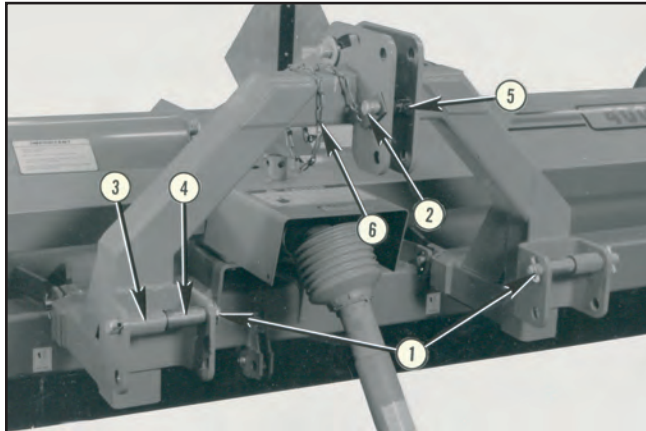

FIGURE 35 PHOTO NO. 2965
Three point hitch shredders have furnished 2 lower link pins (1) and 1 upper link pin (2). These are sized for Cat. II; thus, may be used directly for that mode. Refer to Figure 35.
Generally, the LOWERMOST link pin hole (1) is appropriate for tractors with smaller tires and/or less lift range. The UPPERMOST link pin hole (2) is generally appropriate for tractors with larger tires and/or greater lift range. Refer to figure 35.